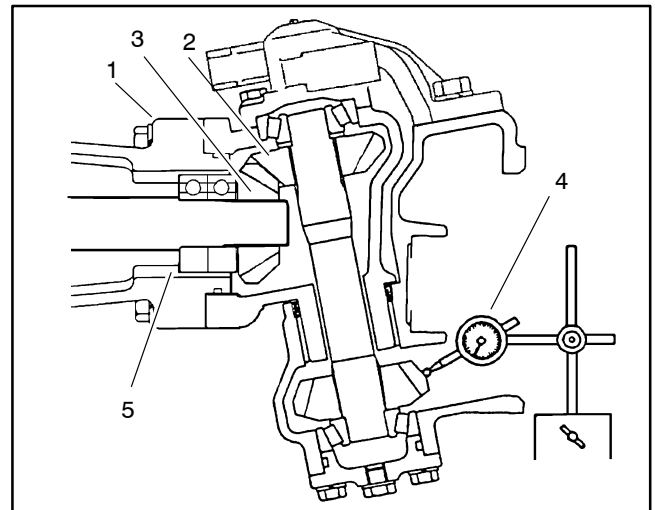

Figure 28
7. Temporarily install the bevel gear case/axle case assembly on the axle support. Position a dial indicator at the teeth center. Prevent the axle from turning and measure the upper bevel gear to differential shaft gear backlash (Fig. 28).